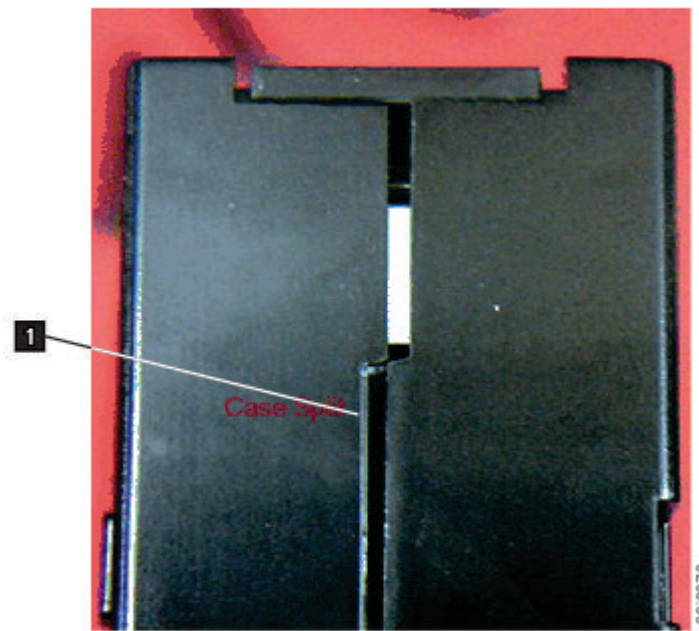
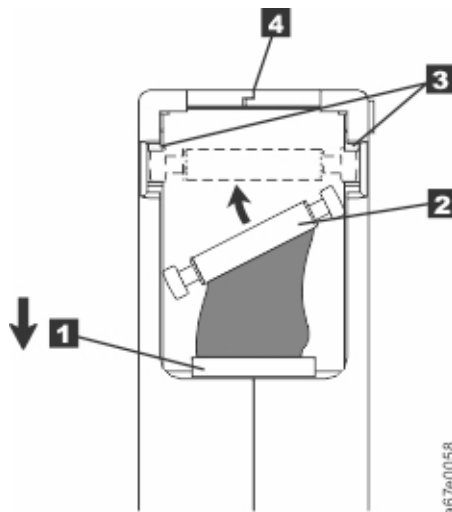

Figure 10. Checking for gaps in the seams of a cartridge
Figure 12. Placing the dislodged leader pin into the correct position
- Inspect the rear of the cartridge (the part that loads first into the tape load compartment) and ensure that there are no gaps in the seam of the cartridge case (see **1** in Figure 10 on page 66 and **4** in Figure 12 on page 68). If there are gaps in the seam (see Figure 10 on page 66), the leader pin might be dislodged. Go to “Repositioning or reattaching a leader pin” on page 67.
Split cartridge case. See Figure 10 on page 66.
1. Slide open the cartridge door (1 in Figure 12 on page 68) and locate the leader pin (2) (you might need to shake the cartridge gently to roll the pin toward the door).
2. With plastic or blunt-end tweezers, grasp the leader pin and position it in the pin-retaining spring clips (3).